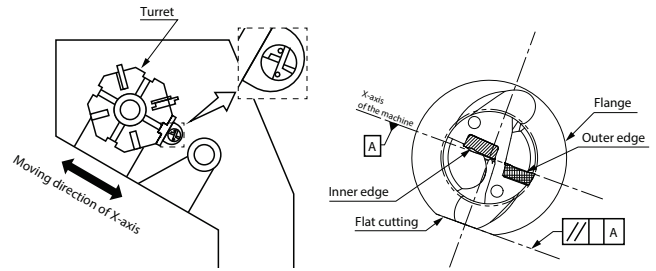
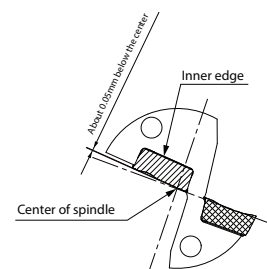

Fig. 1 Installed into the lathe
Fig. 5 Front view of the drill
1. Adjust the scale at the flange periphery of the sleeve to the reference mark (DRV/DRX) or the center of coolant plug (DRZ). (Fig. 1)
2. It is recommended to set the outer insert as shown in Fig. 1 with the outer insert facing the operator. (Fig. 1)
When installing inner insert as shown in Fig. 1, it will be set around 0.05mm below the center of spindle. (Fig. 5)